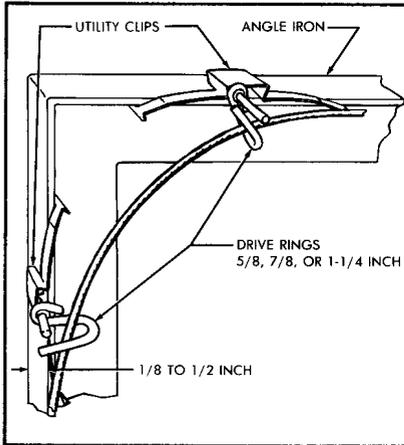

FIGURE 7. Utility Clips
- a. The utility clip (Figure 7), equipped with either a drive ring or the A or M bridle ring, is used to support wire runs on I beams, angle